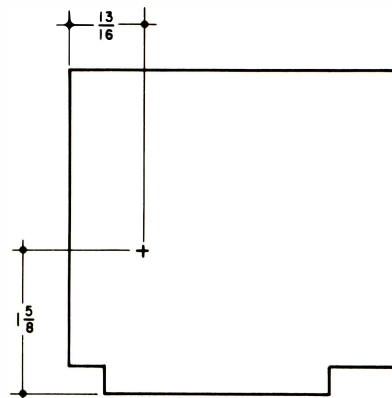

Figure 3. Feedthru Location - A14 Board
12. Drill (7/32") (5.5 mm.) hole in location shown in Figure 3. As in step 4 above, enlarge hole in steps to final size.